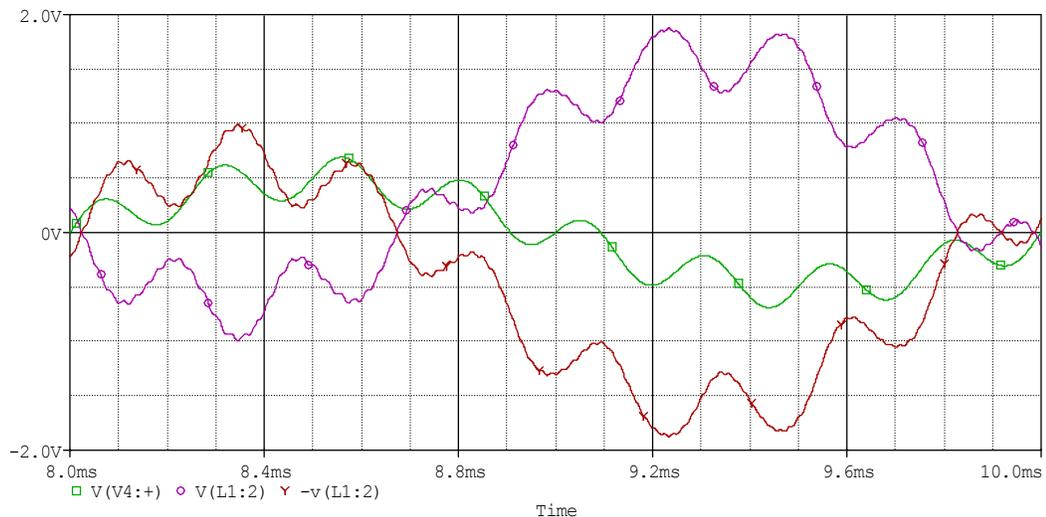

Figure 12.
*What the smoothing capacitor should do:* Recall that when you added a smoothing capacitor to the output of a rectifier, the bumps from the rectified signal were smoothed over and the output was much more even. You can apply this concept to the signal in this circuit as well. If we add a smoothing capacitor of the correct size between point F and ground, we should be able to smooth out the pulses caused by the sampling and come up with an even closer reconstruction of the original audio wave. Figure 12 shows the result of adding a smoothing capacitor to the integrated signal. It shows the original input (at point A), the output of the circuit (at point H), and the inversion of the output (at point H). Note that the original input frequencies have been preserved, but the pulses (that are shown in Figure 9) have been largely eliminated. Aside from a change in amplitude, a slight time delay, and some inconsistencies in DC offset (caused by the integration), the input and the output are now very much the same. You can see that this is a substantial improvement over the initial data shown in Figure 7.